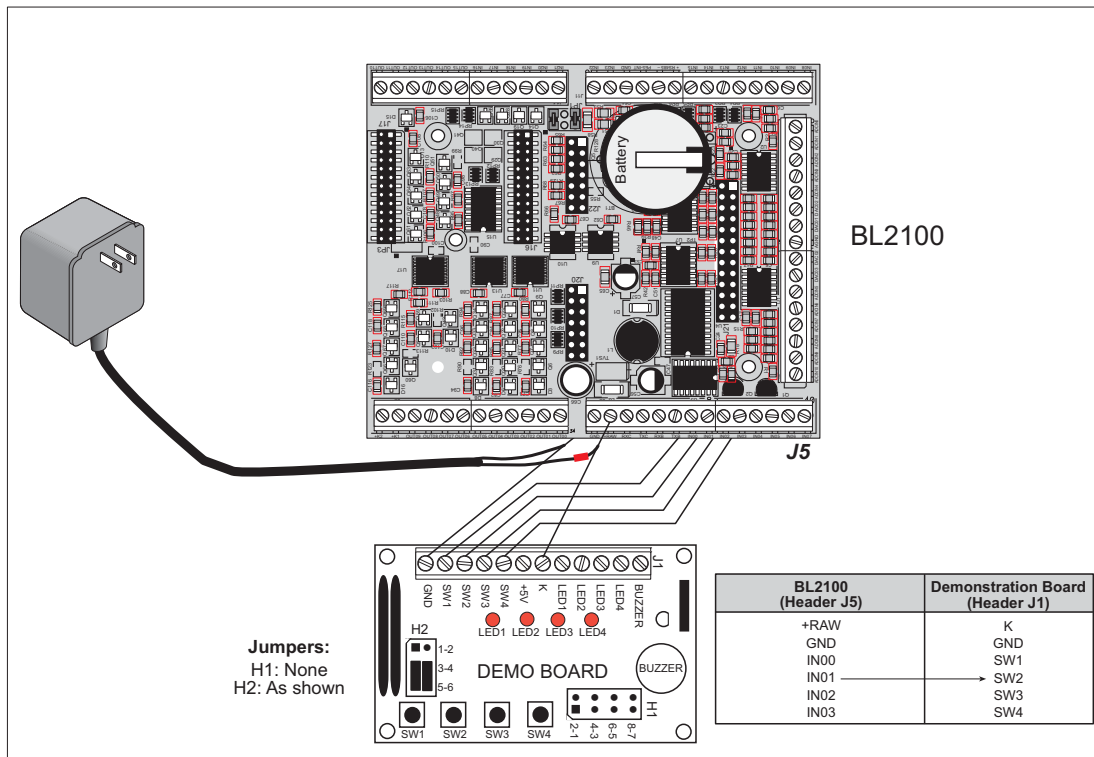
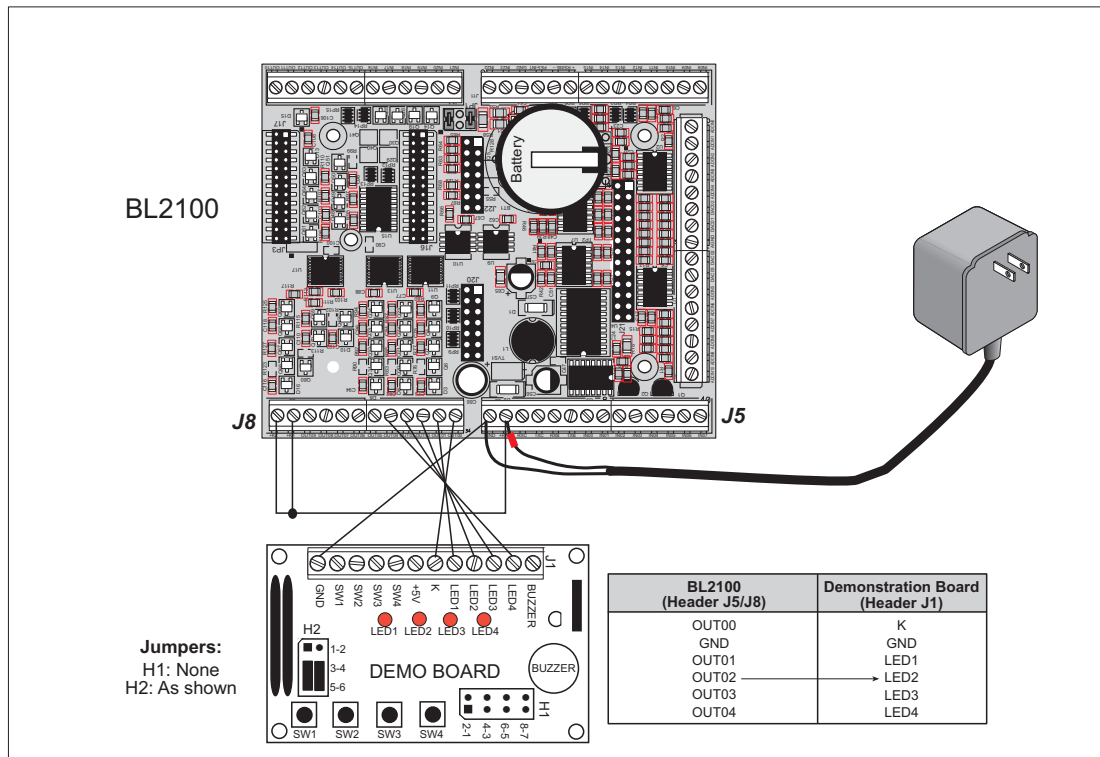
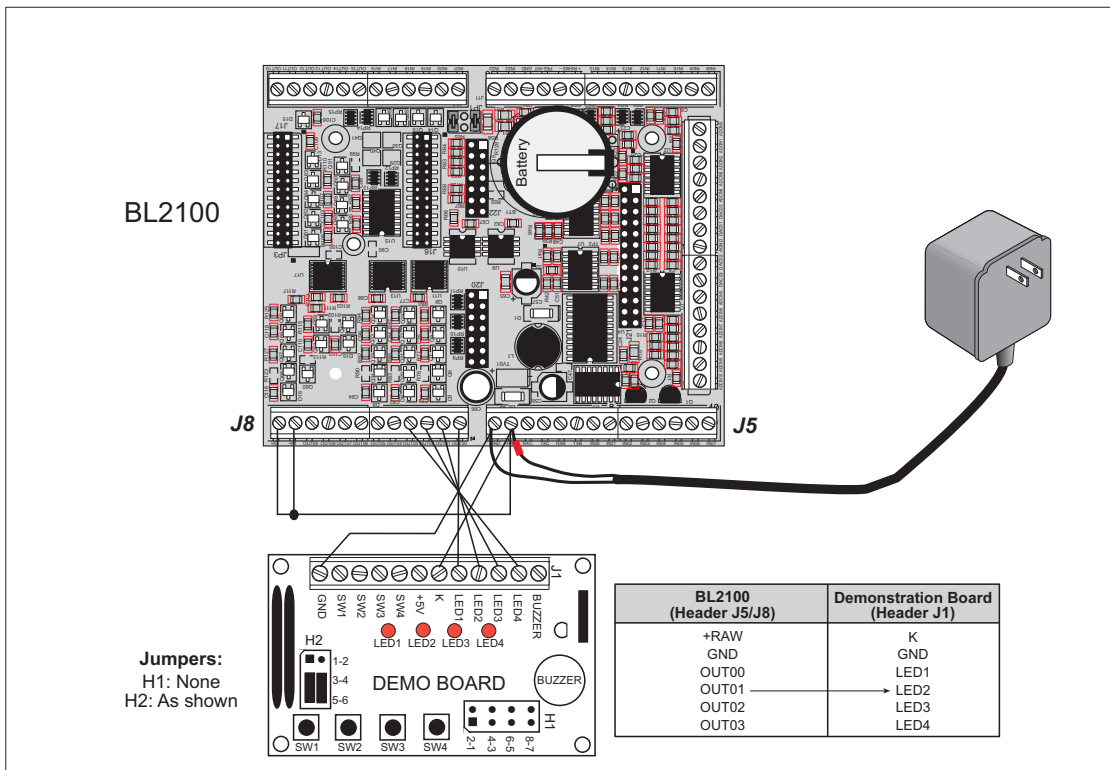

Figure E-1. General Digital Input Connections Between BL2100 and Demonstration Board
Figure E-2. Digital Output Connections Between BL2100 and Demonstration Board
Figure E-3. SSI .C Connections Between BL2100 and Demonstration Board
1. Use the wires included in the BL2100 Tool Kit to connect header J1 on the Demonstration Board to screw-terminal headers J5 and J8 on the BL2100. The connections are shown in Figure E-1 for sample program **DIGIN.C** and for sample program **SMTP.C**, in Figure E-2 for sample program **DIGOUT.C**, and in Figure E-3 for sample program **SSI.C**.
NOTE: +K1 and +K2 on screw-terminal header J8 must be connected to +RAW on screw-terminal header J5 as shown in Figure E-2.
NOTE: +K1 and +K2 on screw-terminal header J8 must be connected to +RAW on screw-terminal header J5 as shown in Figure E-3.